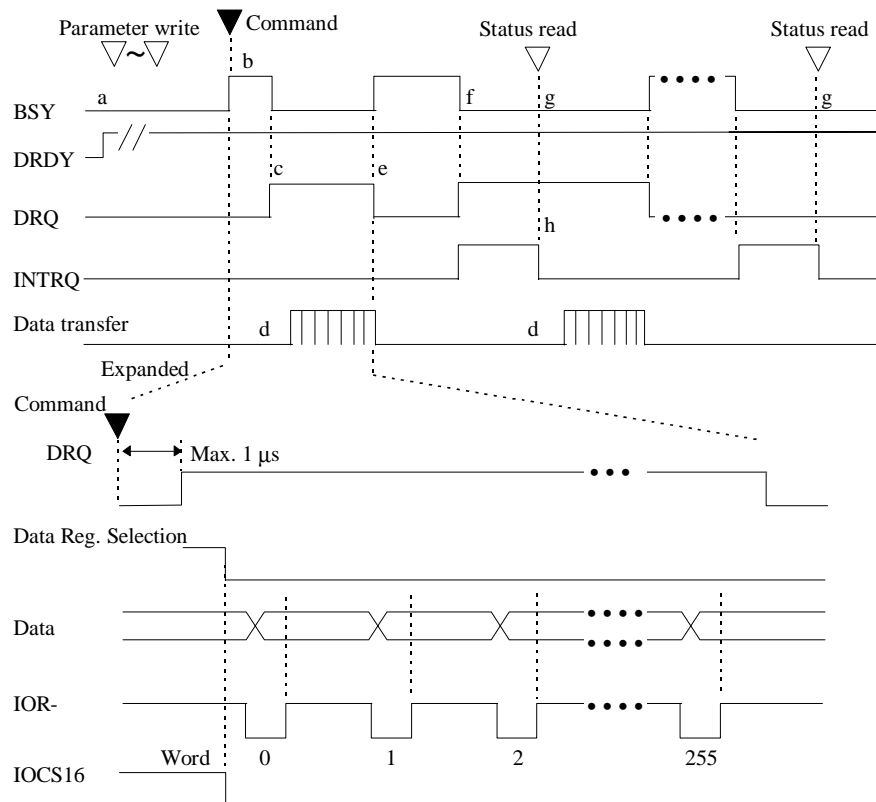

Figure 5.4 WRITE SECTOR(S) command protocol
Figure 5.4 shows an example of WRITE SECTOR(S) command protocol, and Figure 5.3 shows an example protocol for command abort.